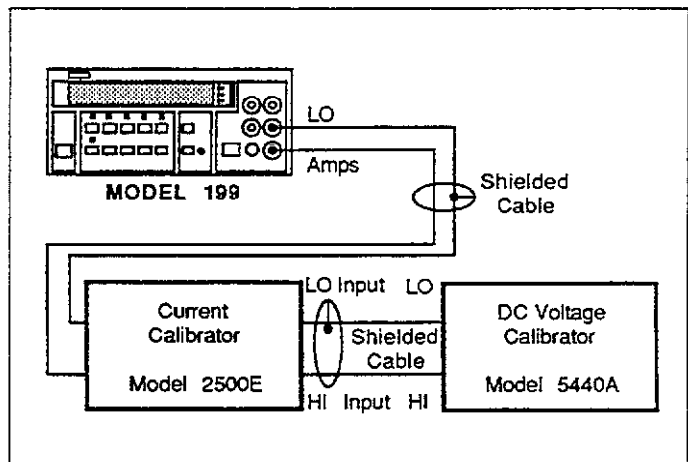

Figure 6-8. DC Current Calibration Configuration
2. Connect the DC current calibrator to the instrument as shown in Figure 6-8.